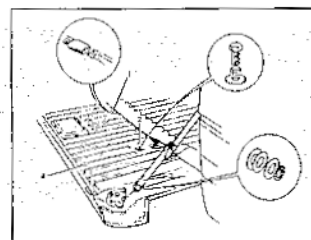

Fig. 12.7 The lower tailgate (4), stay rod fixing (3), hinge bolts (2) and number plate light leads (1) (Sec 12)
- 2 Support the tailgate and then disconnect the check straps from the tailgate by prising free the retaining clip and removing the washers (Fig. 12.7).